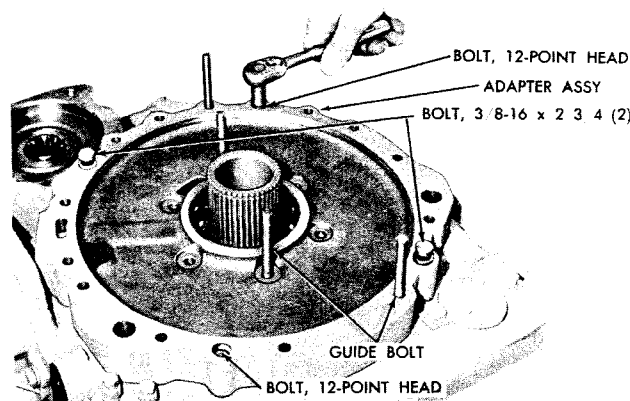

Fig. 7-21. Installing adapter assembly bolts (-3 overdrive model)
(12) Install two 3/8-16 x 2 3/4-inch bolts temporarily to pull adapter assembly down against piston return springs (fig. 7-21).
(13) Install two 3/8-16 x 1 3/4-inch, 12-point-head bolts into the recessed holes at each edge of the adapter assembly (fig. 7-21). Remove the two outer guide bolts and the temporary pull-down bolts. Tighten the 12-point-head bolts to 36 to 43 pound feet torque.
(14) Install six 3/8-24 x 1 1/4-inch, self-locking bolts into the inner circle of bolt holes. Remove the two inner guide bolts to install the last two bolts. Tighten the bolts to 41 to 49 pound feet torque.